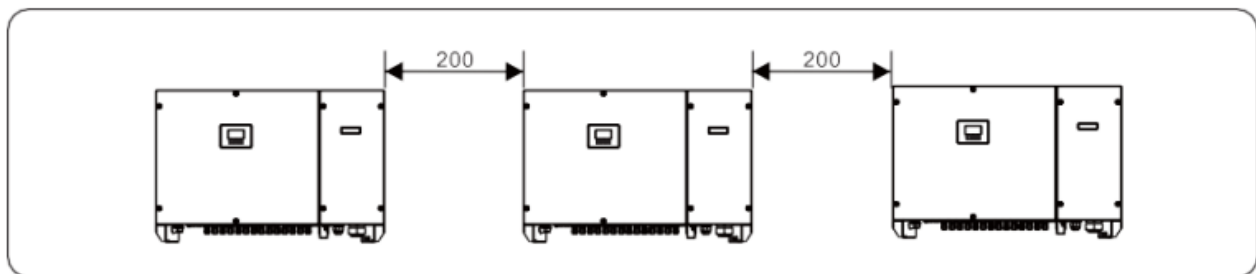
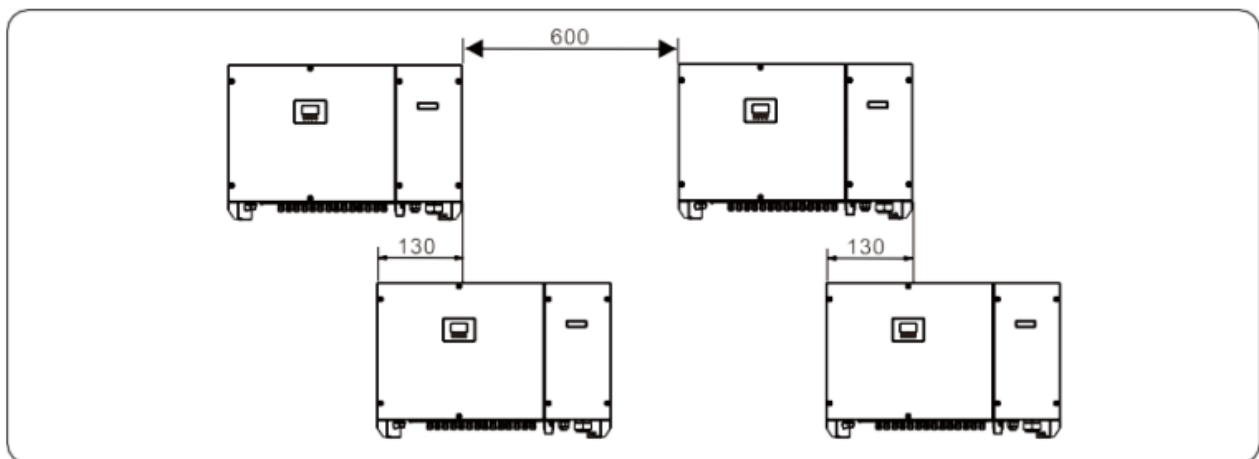

Figure 4.5 Installation along the same line (unit: mm)
Figure 4.6 Installation in stacked mode
c. c. When installing multiple inverters, install them along the same line (as shown in Figure 4.5) if sufficient space is available, and install them in triangle mode or in stacked mode (as shown in Figure 4.6) if no sufficient space is available. The installation modes ensure sufficient space for installation and heat dissipation.